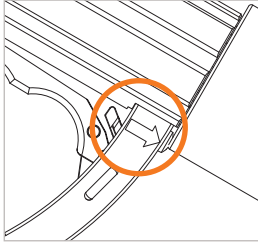

Figure 12
- ▶ Pull the locking lever (Pos. 5) back in the direction of the arrow (Figure 12) to release the locking mechanism and move the actuation lever to the OFF position.